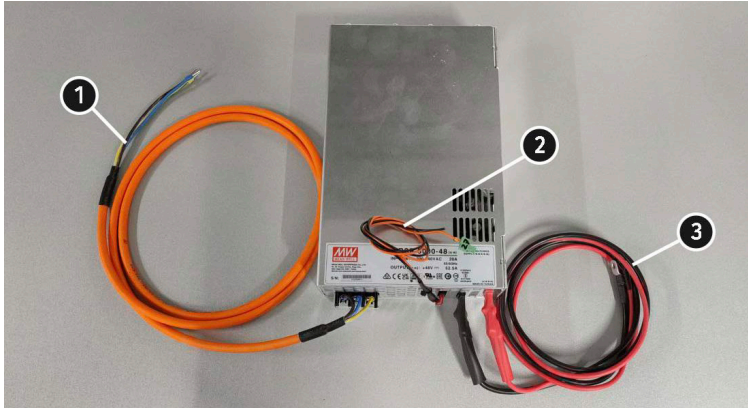
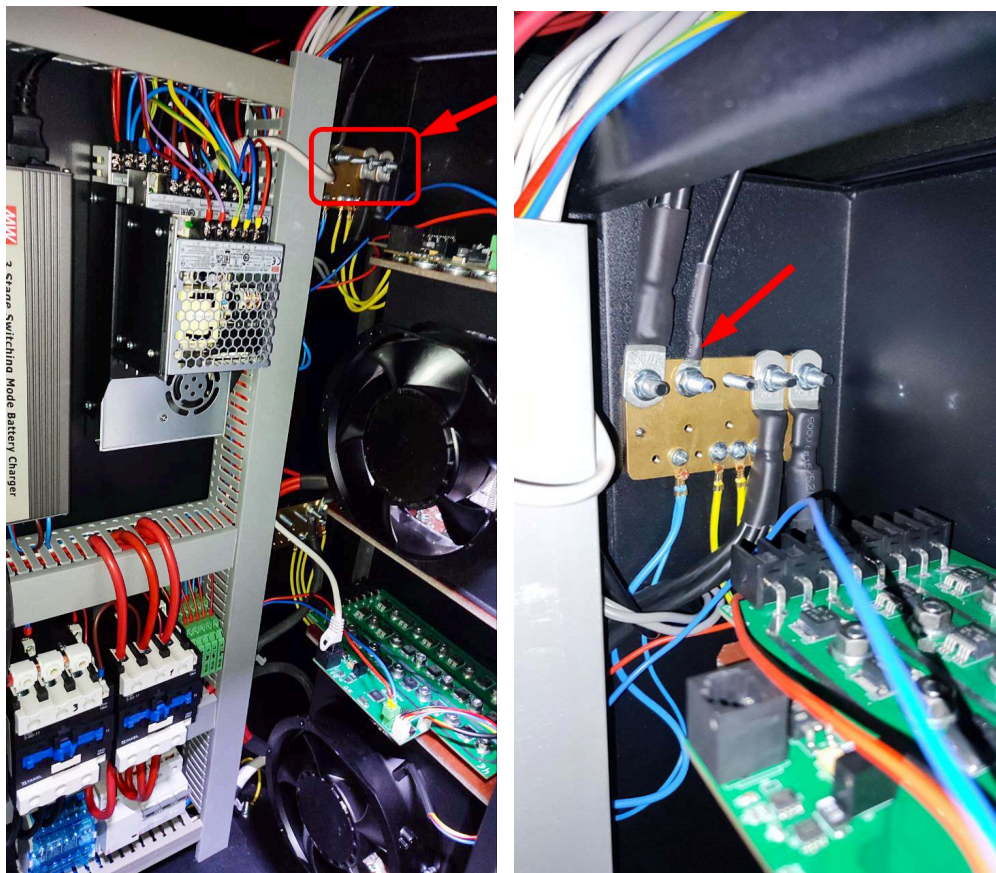
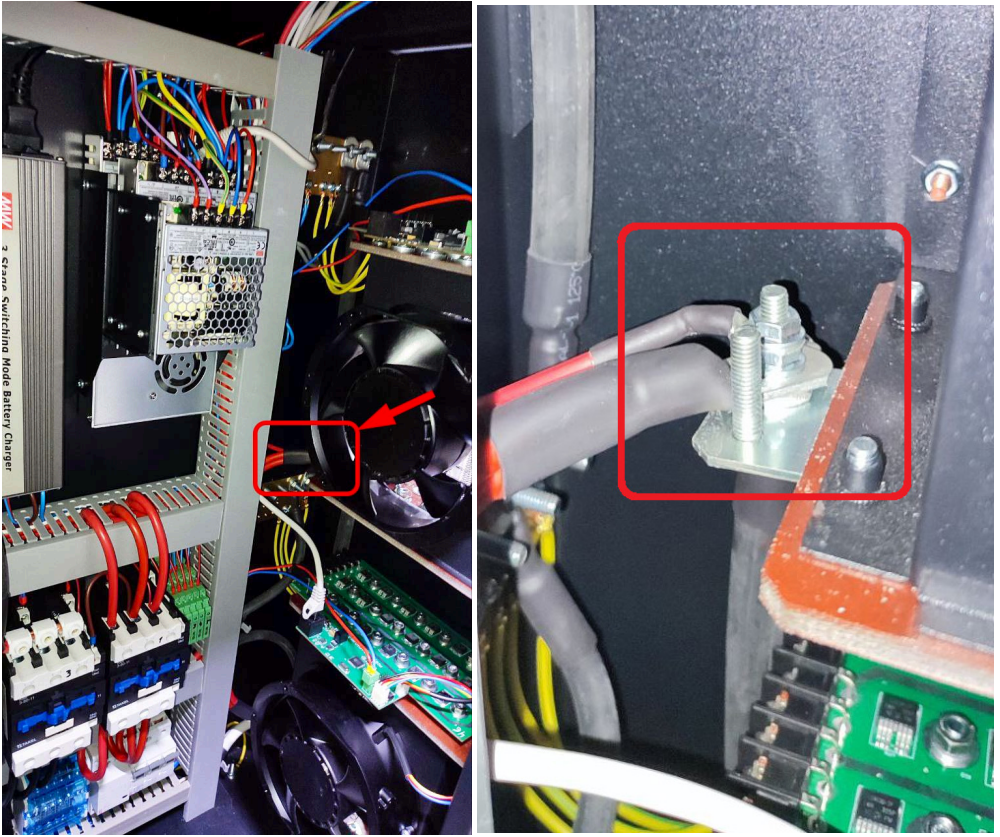
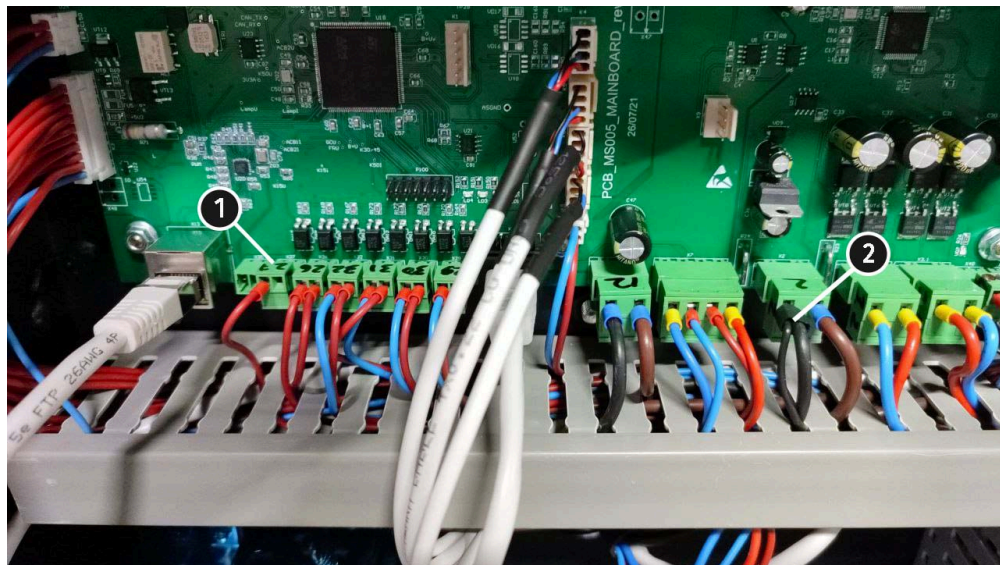

Figure 6
Figure 8
Figure 9
Figure 12
Three sets of wires are connected to the RSP-3000-48 power supply unit (see figure 6):
2. Connect the black wire of the power supply output (item 3, Fig. 6) to the minus copper bar, see Fig. 8.
3. Connect the red wire of the power supply output (pos. 3, fig. 6) to the load block (see fig. 9).
4. Connect the power supply wires of the power supply unit (pos. 1, fig. 6) to the power terminal block (see fig. 10).
5. Connect the control wires for the power supply unit (pos. 2, fig. 6) to the main board as shown in figure 12. The wire with the connector in position 1 and the black wire in position 2.